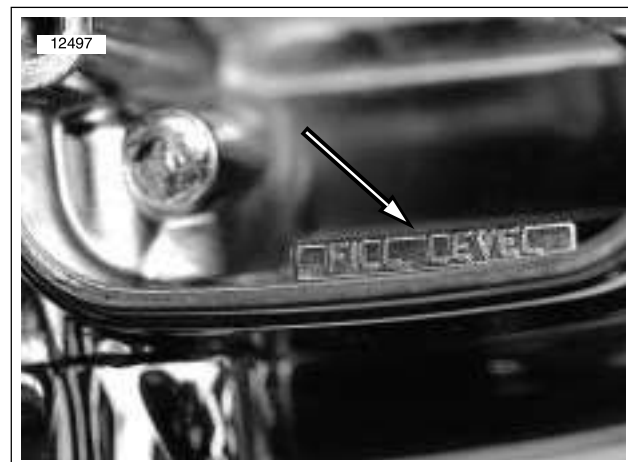

Figure 1-2. FILL LEVEL
- See Figure 1-2. If fluid level is below FILL LEVEL on ledge in reservoir, add D.O.T. 4 HYDRAULIC BRAKE FLUID (Part No. 99953-99A) to raise fluid level. Do not exceed FILL LEVEL.